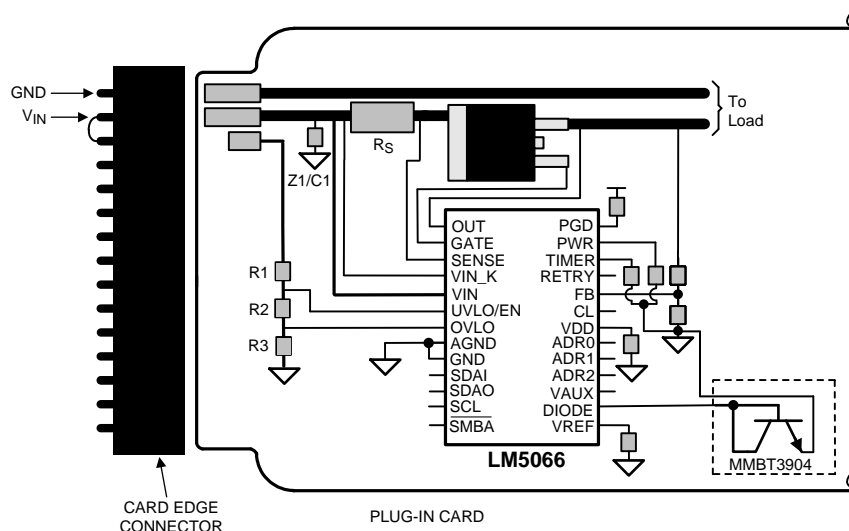

Figure 17. Recommended Board Connector Design
- The board's edge connector can be designed such that the LM5066 detects via the UVLO/EN pin that the board is being removed, and responds by turning off the load before the supply voltage is disconnected. For example, in Figure 17, the voltage at the UVLO/EN pin goes to ground before V_{IN} is removed from the LM5066 as a result of the shorter edge connector pin. When the board is inserted into the edge connector, the system voltage is applied to the LM5066's VIN pin before the UVLO voltage is taken high, thereby allowing the LM5066 to turn on the output in a controlled fashion.